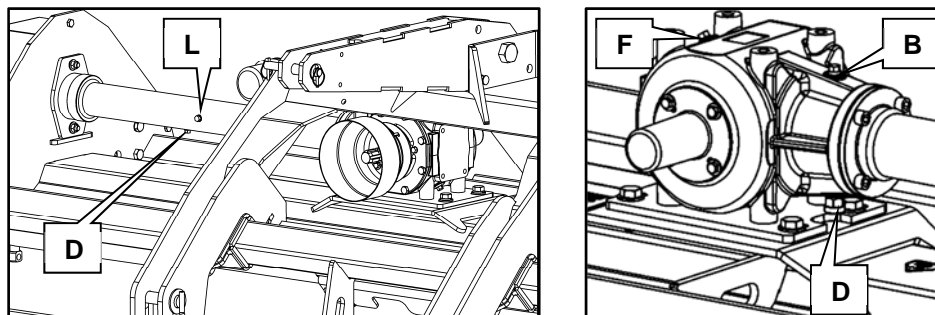

Figure 9.1
Drain and replace the oil after the first 50 hours' work and thereafter every 1000 hours or 12 months, whichever is the earlier. The positions of the filler plugs (F), level plugs (L), drain plugs (D) and breathers (B) are shown for both Drive-tube and gearbox in Figure 9.1 below for all Flail mower ranges.